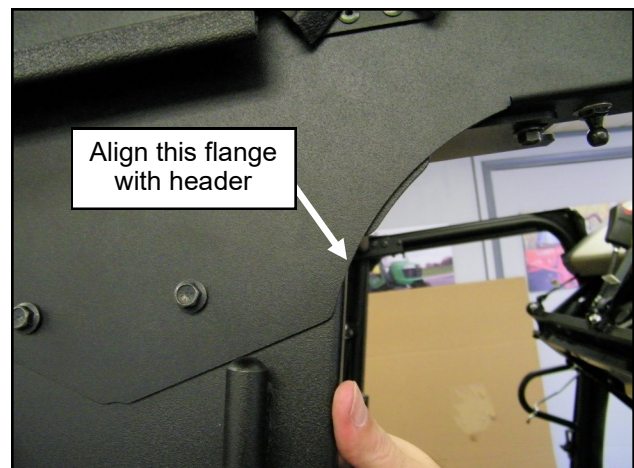

Fig. 13.3 B-panel alignment
- 13.3** Align the B-pillar upper rear flange flush to the side header per figure 13.3 and tighten the (5) bolts for each B-pillar to the side header.